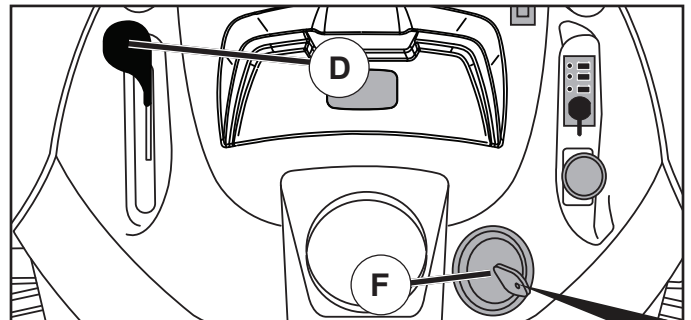

Fig. 6
TO USE THROTTLE CONTROL (D) (See Fig.6)